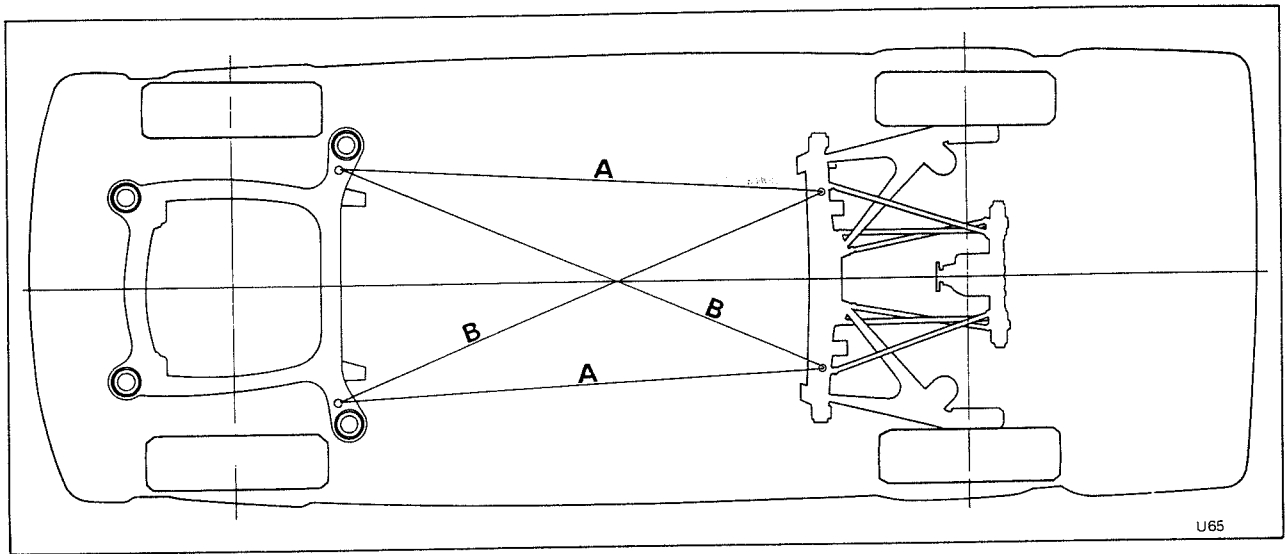

Fig. H3m Sub-frame alignment
2. Ensure that the front and rear sub-frame are aligned by measuring the longitudinal and diagonal distances between the machined fixture locating pads (see Fig. H3m).